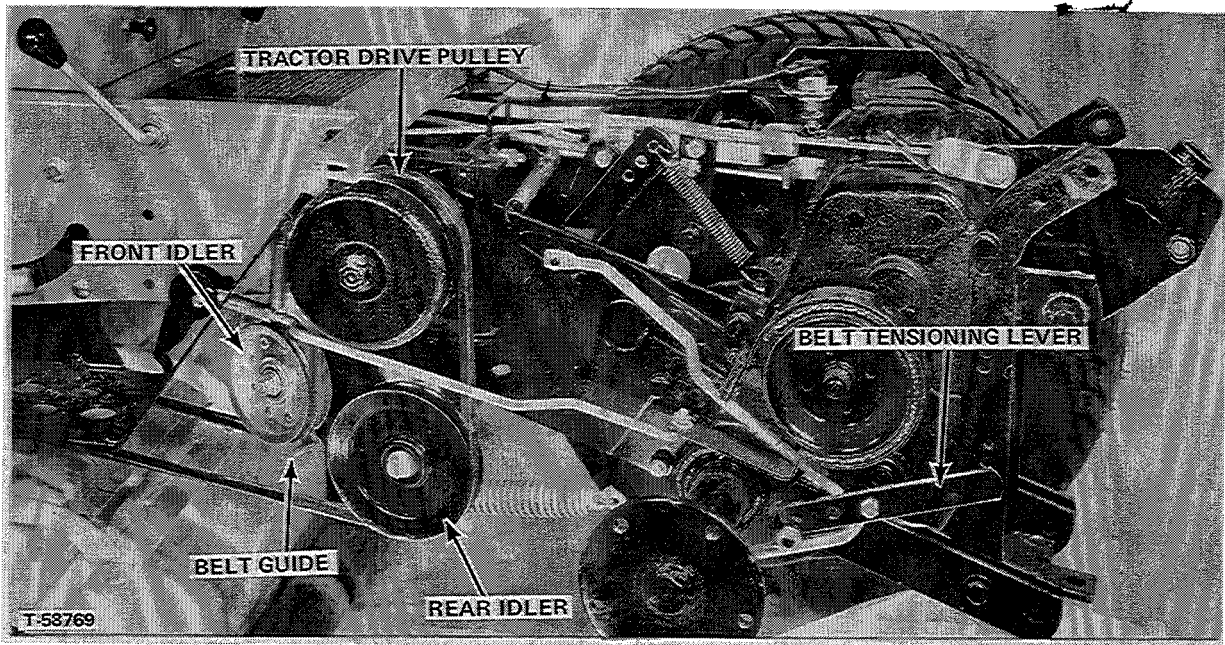

FIGURE 8 - (Seat Deck and L.H. Rear Wheel Removed)
3. Disengage the tractor power take off lever. Push the belt tensioning lever, (Figure 8) all the way down. Loosen the bolt that holds the belt guide on the front idler. Place the mower drive belt over the mower driven pulley, the tractor drive pulley and the front and rear idlers as shown in Figures 7 and 8. Make sure that flat top of the belt contacts the front idler. Locate belt guide as shown and tighten bolt. Raise belt tensioning lever to tighten belt.